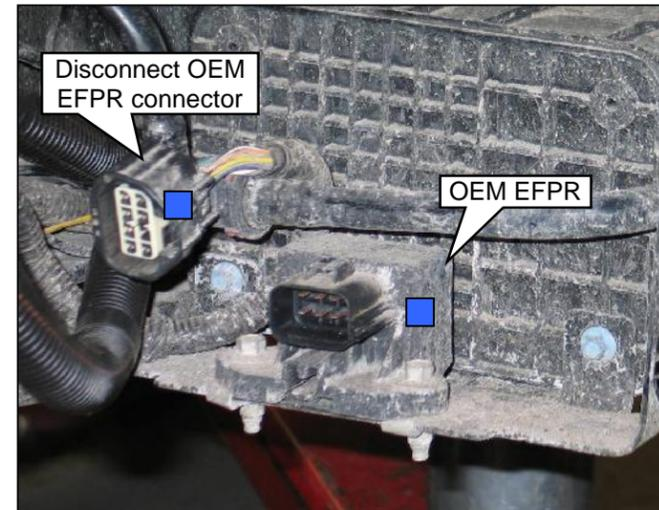

Figure 17.1 — OEM Aft-axle Tank Version
4. Route the end of the rear frame harness (extension) between the vapor canister bracket and left frame rail and under the crossmember. The rear frame harness connections for the OEM EFPR and the new EFPR are made after the EFPR installation. **Figure 16.8.** Also refer to page 17 for EFPR installation. **Figures 17.1–17.4.**
7. Disconnect the electrical connector from the OEM EFPR. **Figure 17.1.**